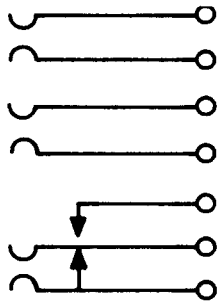

Fig. 8—463A Jack
2.08 463A: This multicontact jack (Fig. 8) consists of a metal bracket on which there are mounted three pairs of contact springs, one pair of which is equipped with a set of break-make contacts. This jack is used with the 240B plug which operates the set of break-make contacts when inserted in the jack. This jack is also equipped with a numbered plate holder. The terminals are arranged for mechanically wrapped connections. This jack is to be mounted on mounting plates used in step-by-step equipment.